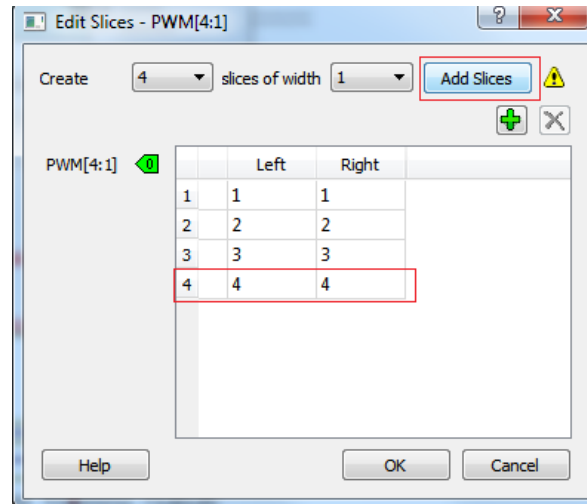

Figure 38 • Edit Slices of CorePWM
4. Click Add Slices to add an extra PWM port as shown in Figure 38. Click **OK**.